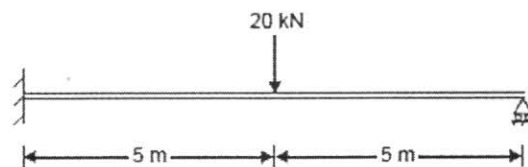

Fig. Q8.
8. Determine the deflection under the load for the beam shown in Fig. Q8. Take modulus of elasticity of material as 200 GPa and moment of inertia as $24 \times 10^{-6} \text{ m}^4$.